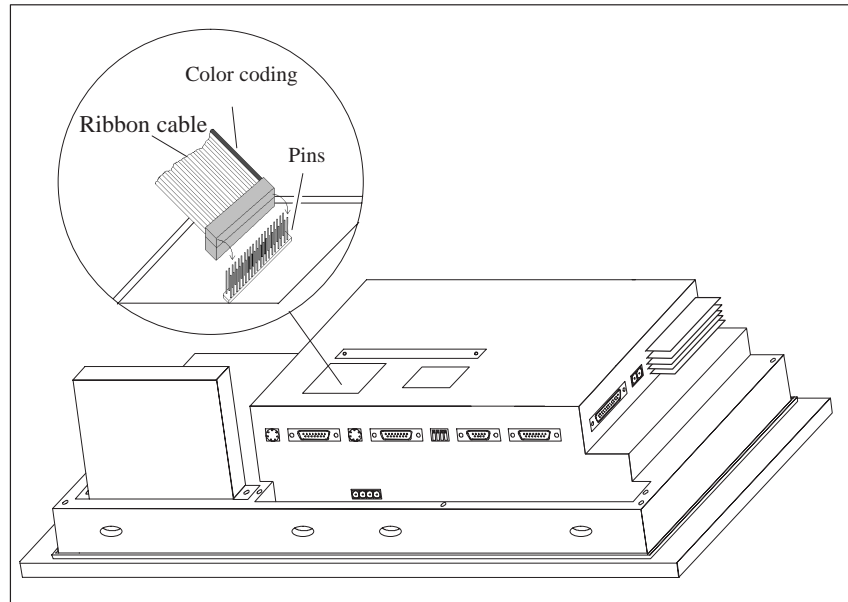

Figure 18-9 Connect the control panel interface plug (example OP37)
3. Connect the connector of the DKM ribbon cable to the plug connector of the OP in such a way that the color-coded side of the ribbon cable is facing toward the center of the unit (see Figure 18-9).